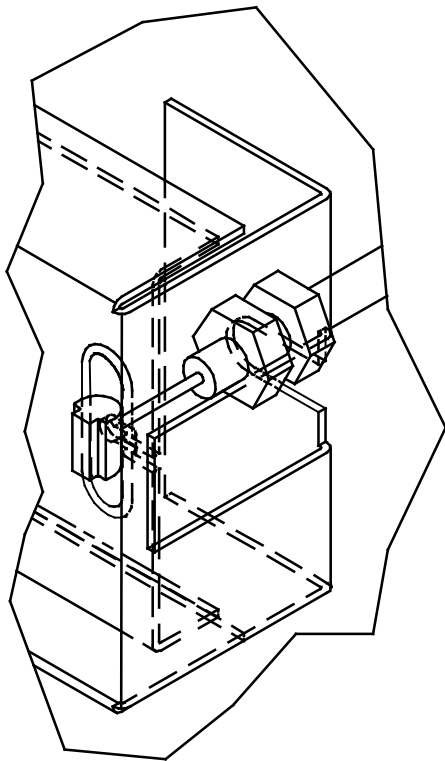

FIG. 12
5. Assemble the operating cable to the fountain bracket. (Fountain should be mounted to exterior wall). The adjustment nuts should be in the middle of threaded area on the operating cable. See Figure 12. Create a loop in the cable and thread the free end of the cable through the wall into the freeze resistant box.